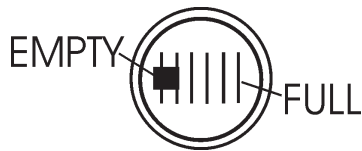

Figure 16. Fuel Gauge
1. Read the fuel gauge located on top of the generator (Figure 16) to determine if the fuel level is low.